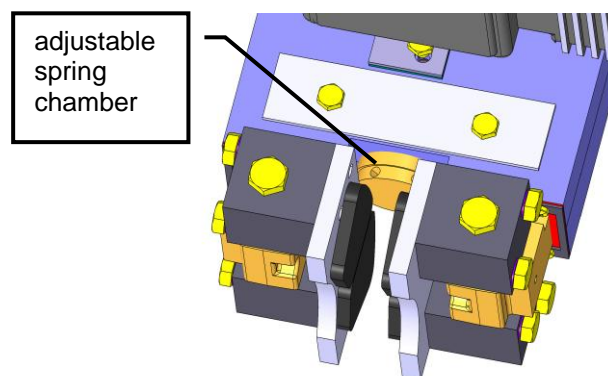
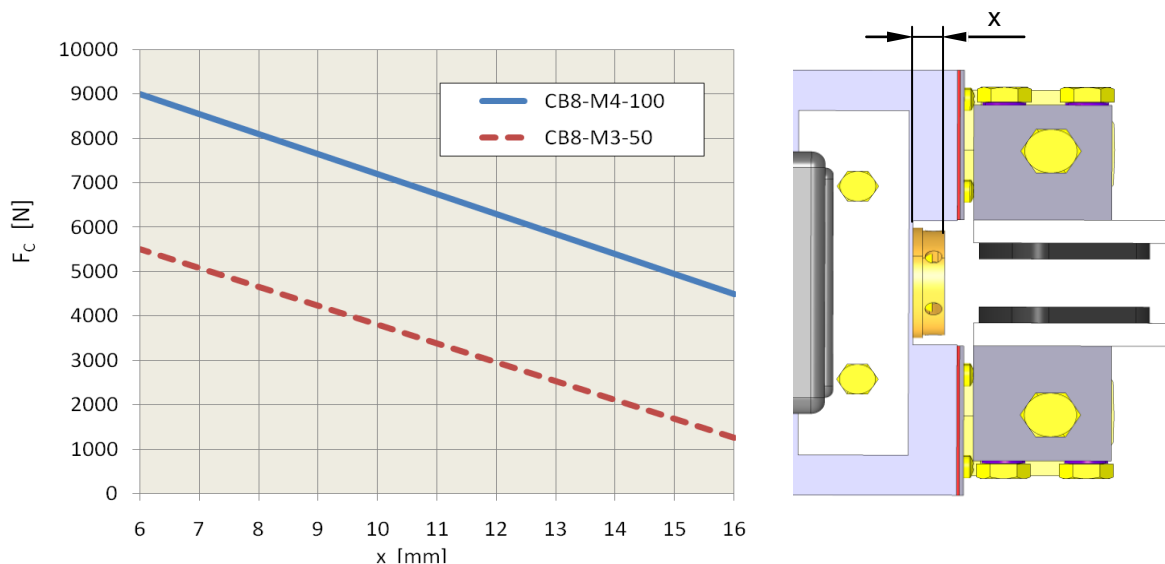

Fig. 10: Adjustment of brake torque
Fig. 11: Adjustment of brake torque
The clamping force between the linings and the disc and so the brake torque is created by a helical compression spring. The adjustment of the brake torque is done by increasing or decreasing the spring preload with the help of the adjustable spring chamber (see figure 10 and figure 11).
2. Ascertain the required dimension  $x$  for the overhang of the adjustable spring chamber out of the housing acc. to figure 11.
3. Turn around the spring chamber (figure 10 and figure 11) with a hexagon key  $\varnothing 5$  mm till the ascertained overhang is reached.
When the **clamping force** has been **increased** (overhang  $x$  has become smaller, figure 11) the reserve stroke might have become too small for a safe functionality of the brake.
When the **clamping force** has been **decreased** (overhang  $x$  has become bigger, figure 11) the reserve stroke might have become too high. In this case proceed as described in §5.1 just without replacement of the brake linings.